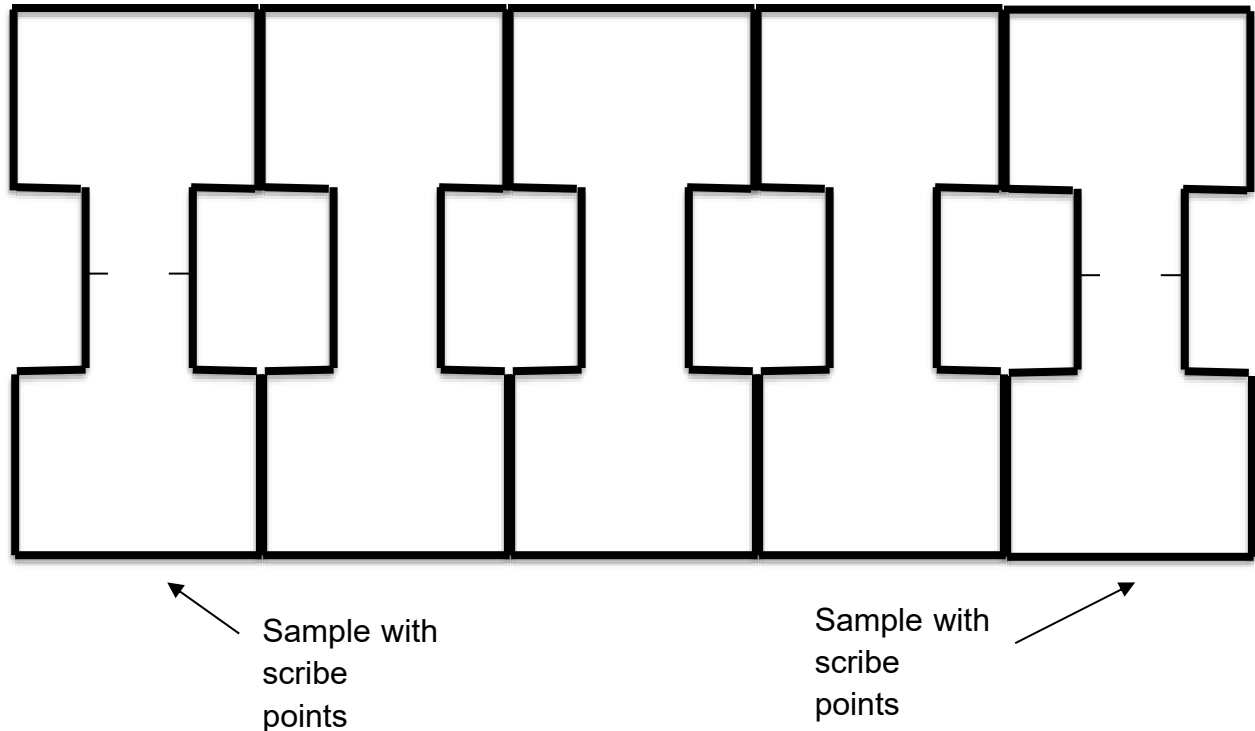

Figure 4: Alignment of pre-scribed samples
- 2) Lay several samples in-line with each other, placing the two samples with scribe points at the ends of the row. This arrangement is illustrated in Figure 4.